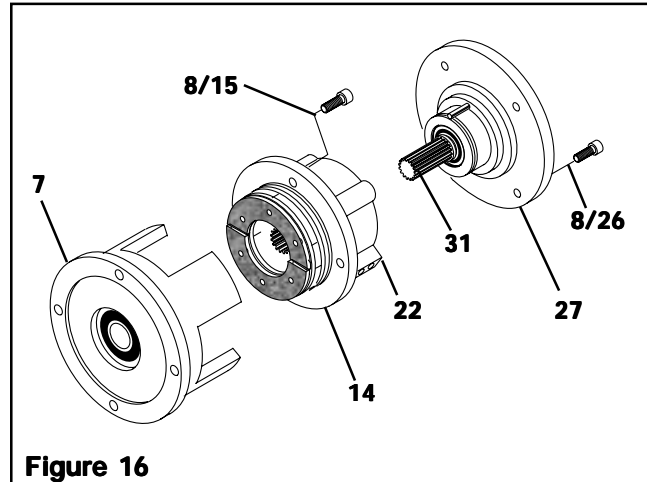

Figure 16
1. Remove the four Socket Head Cap Screws and separate the Air Chamber (Item 14) from the Housing (Item 7) (See Figure 16).
2. Remove the four Socket Head Cap Screws securing the Male Pilot (Item 27) to the Cylinder (Item 22) (See Figure 16).
3. Remove the Male Pilot (Item 27) and Stub Shaft (Item 31) from the Cylinder (See Figure 16).
21. Apply a drop of Loctite® 242 to the threads of the Socket Head Cap Screws (Item 8 or 15) (See Figure 16).